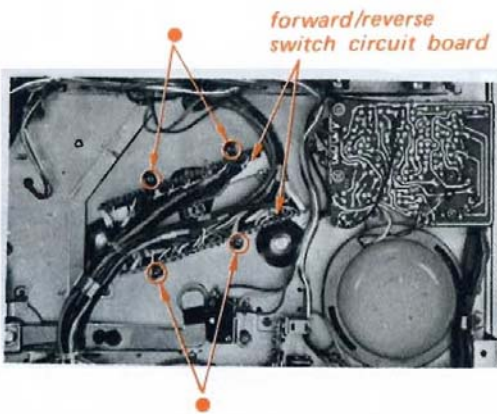

Fig. 8-10 Forward/Reverse switch circuit board removal
- (1) The forward/reverse switch circuit boards can be now removed by unscrewing respectively two screws marked with ● in Fig. 8-10.